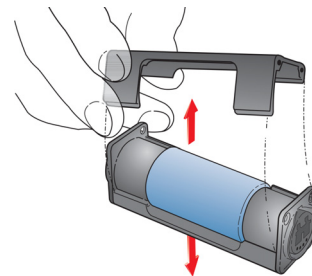

Figure 2-26: opticalCON Coupler Disassemble
- Step 3. Separate top and bottom enclosure pieces. **(Figure 2-26).**